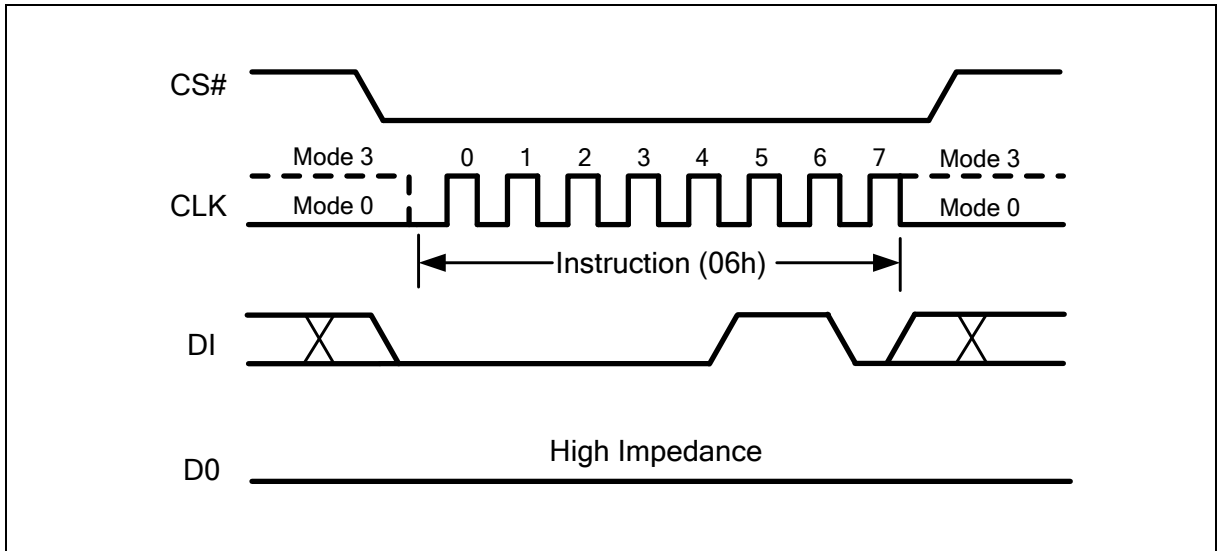
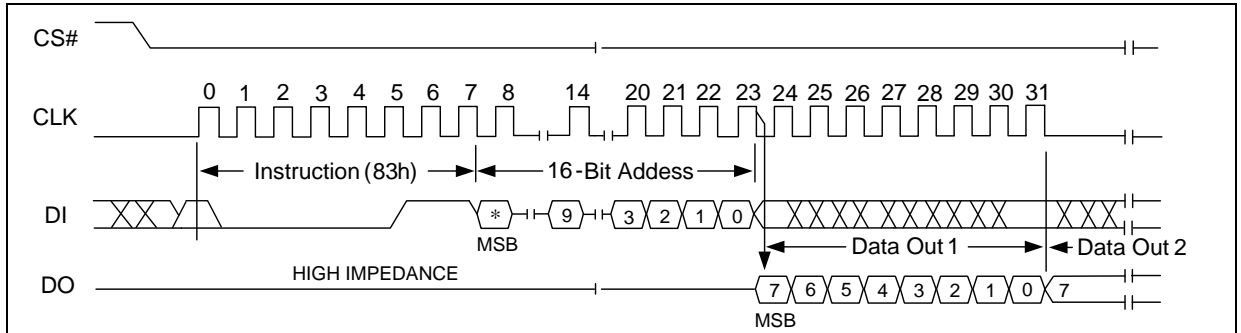

Figure 5 Write Enable Instruction
Figure 15 Read UID Number Sequence
Instructions vary in length from a single byte to several bytes and may be followed by address bytes, data bytes, and in some cases, a combination. Instructions are completed with the rising edge of edge CS#. Clock relative timing diagrams for each instruction are included in Figure 5 through Figure 15. All read instructions can be completed after any clocked bit. However, all instructions that Write must complete on a byte boundary (CS# driven high after a full 8-bits have been clocked) otherwise the instruction will be ignored. This feature further protects the device from inadvertent writes. Additionally, while the memory is being written, or when the Status Register is being written, all instructions except for Read Status Register will be ignored until the write cycle has completed.
The Write Enable (WREN) instruction (Figure 5) sets the Write Enable Latch (WEL) bit in the Status Register to a 1. The WEL bit must be set prior to every Write and Write Status Register instruction. The Write Enable (WREN) instruction is entered by driving CS# low, shifting the instruction code “06h” into the Data Input (DI) pin on the rising edge of CLK, and then driving CS# high.
The Read Unique ID Number instruction accesses a factory-set read-only 128-bit number that is unique to each FM25320 device. The ID number can be used in conjunction with user software methods to help prevent copying or cloning of a system. The Read Unique ID instruction is initiated by driving the CS# pin low and shifting the instruction code "83h" followed by a 16-bit address A15-A0 into the DI pin. Address bit A9 must be '1b', upper address bits are don't care, the lower address bits [A3:A0] define the byte address inside the UID. After which, the 128-bit ID is shifted out on the falling edge of CLK as shown in Figure 15. When the end of the 128-bit UID number is reached (16 bytes of data), the data word address will roll-over back to the beginning of the 128-bit UID number. The read UID cycle is terminated by driving CS# pin high.